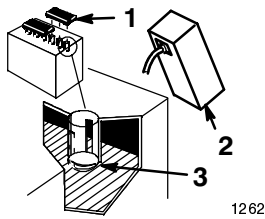

Figure 4
2. Remove the filler caps from the battery. Slowly pour electrolyte into each cell until the electrolyte level is up to the lower part of the tube (Fig. 4). Use an electrolyte with a specific gravity of 1.265.
5. Slowly pour electrolyte into each cell until the level is once again up to "UPPER" line on the battery case (Fig. 4), then install the filler caps.